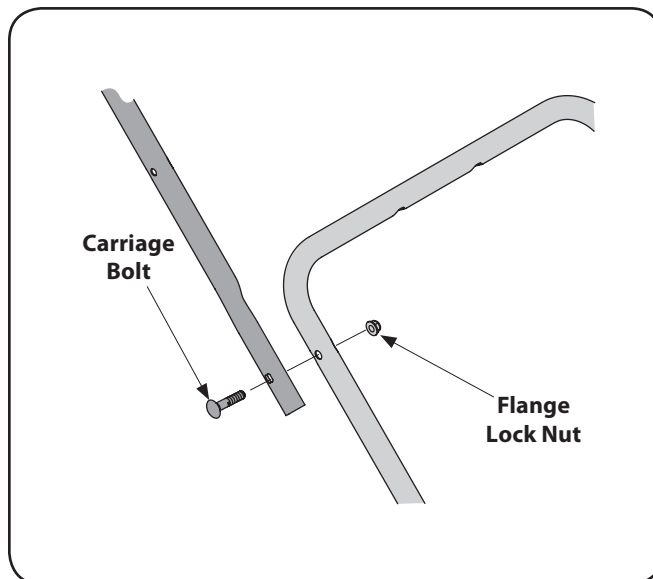

Figure 3-3
2. Secure the upper handle to the lower handle using the carriage bolts and lock nuts from Group 4 of the hardware pack. See Fig. 3-3.